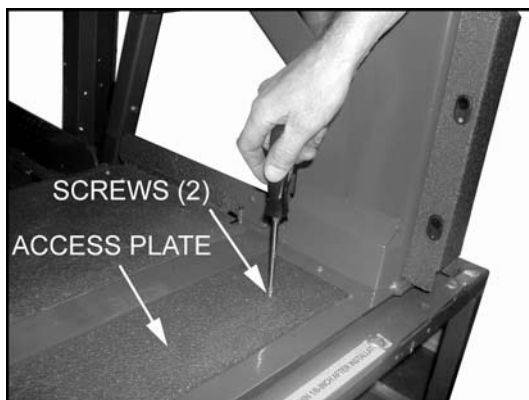

FIGURE 2
3. Refer to **FIGURE 2 and 3**. Remove center access panel at rear of baseplate.